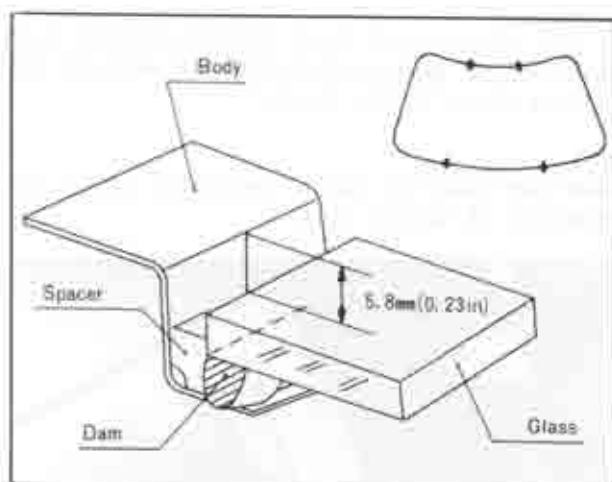

Fig. 14-34 Adjusting clearance.
- 8. Firmly press the glass against the sealant with hand pressure. Then, inspect the appearance of the sealant through the glass. A dull spot indicates an area where the sealant does not contact glass surface. Additional hand pressure will seal most areas. When installing the glass, 5.8 mm (0.23 in) clearance should exist between the body and the glass. Check the clearance at the four positions shown in Fig. 14-34.